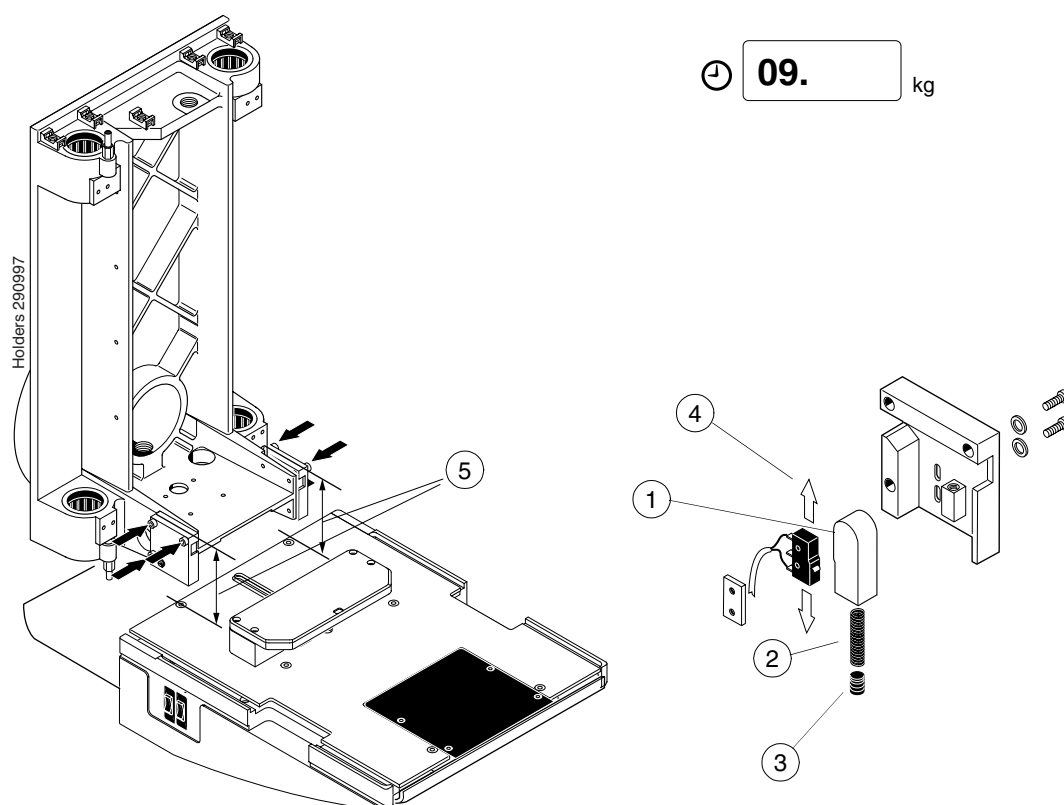

Figure F.42
- a) If the right lower signal does not light when the paddle is tilted 6 - 12 mm, adjust the place of paddle holders' microswitches (Fig. F.42, 4).
- c) If the paddle is not straight, adjust the height of the holders (Fig. F.42, 5)
- d) If the prongs stick into the lower paddle holders, remove the holders from the C-arm center frame and check (Fig. F.42):
- Do the parts (1) have vaseline.
- Are the parts (1) clean of burrs.
- Is the spring (2) whole and straight.
- Adjust the screw (3).